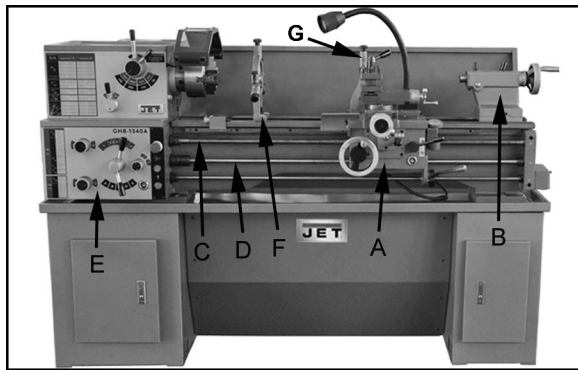

Figure 8-2
3. **Gear Shaft** – Find the oil nipple (F, Figure 8-2) and oil with a couple drops of Mobil DTE® Oil Heavy Medium once weekly.
The apron (A, Figure 8-2) is mounted to the carriage. In the apron a half nut is fitted. The half nut gibs can be adjusted from the outside. The half nut is engaged by use of a lever. Quick travel of the apron is accomplished by means of a bed-mounted rack and pinion, operated by a handwheel on front of apron.
The tailstock (B, Figure 8-2) slides on a v-way and can be locked at any location by a clamping lever. The tailstock has a heavy-duty spindle with a Morse Taper #4.
The leadscrew (C Figure 8-2) and feed rod (D, Figure 8-2) are mounted on the front of machine bed. They are connected to the gearbox at the left for automatic feed and lead. They are supported by bushings on both ends.
The gear box (E, Figure 8-2) is made from high quality cast iron and is mounted to left side of machine bed.
The steady rest (F, Figure 8-2) serves as a support for shafts on the free tailstock end. The steady rest is mounted on the bedway and secured from below with bolt, nut and locking plate.
The traveling follow rest (G, Figure 8-2) is mounted on the saddle and follows the movement of the turning tool. Only two fingers are required as the turning tool takes the place of the third. The follow rest is used for tuning operations on long, slender workpieces. It prevents flexing of the workpiece from the pressure of the cutting tool.